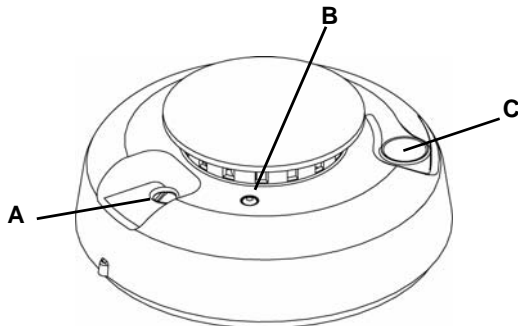

Figure 1 ES1242 Features
4. Place a selection jumper on the appropriate frequency band selection pins (Fig. 1).